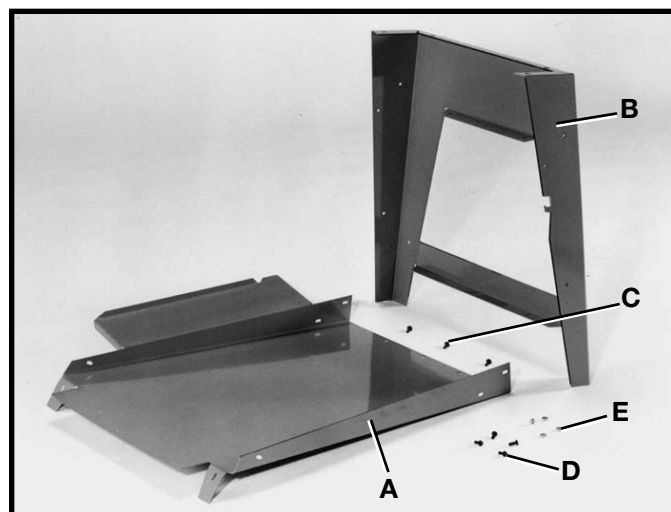
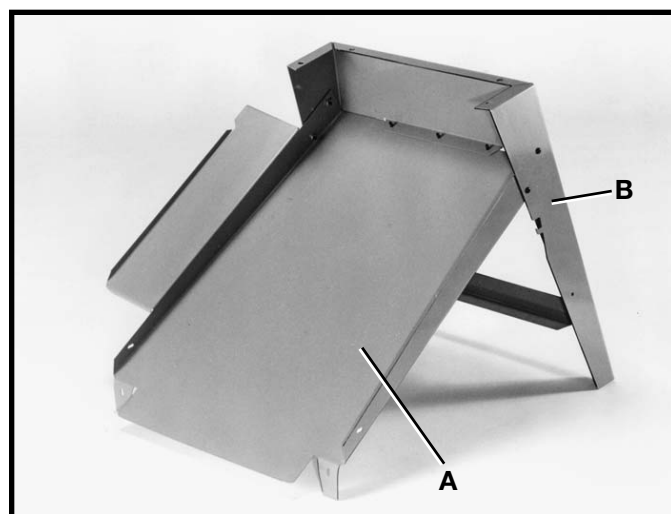

Fig. 8
Fig. 9
1. Assemble the dust chute and support panel (A) Fig. 8, to the inside of the front stand panel (B) with three #10 x 1/2 sheet metal screws (C), four #10-32 x 1/2 screws (D), and four hex nuts (E). Fig. 9 illustrates the dust chute and support panel (A) assembled to the front of stand (B). **NOTE:** The front stand panel will have the saw identity labels facing you. Do not completely tighten the stand hardware at this time. Also, make certain the dust chute/support panel (A) Fig. 9, is located under the lip of front stand panel (B).